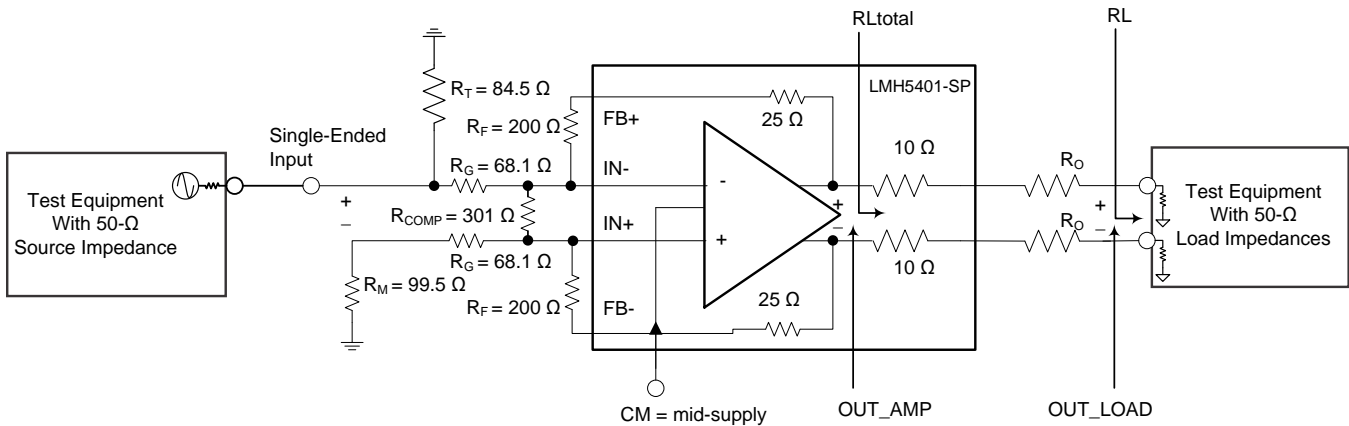
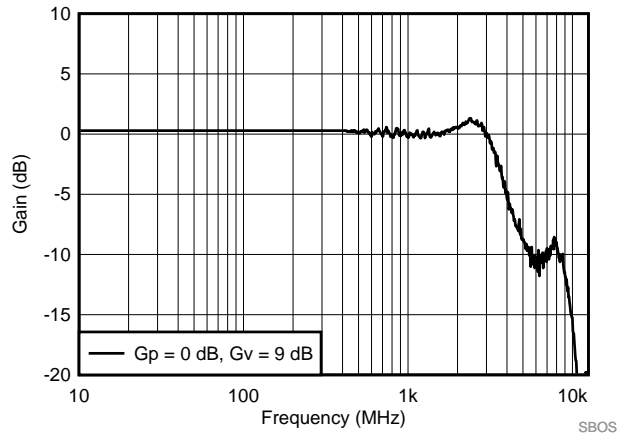

图 61. Noise Gain Compensation for Stability at $G_p = 0$ dB
图 62. SE-DE Small Signal Frequency Response for Low Gain
Two types of gain are associated with amplifiers: noise gain (NG) and signal gain. Noise gain determines the stability of an amplifier. The noise gain is the inverse of the voltage divider from the outputs back to the differential inputs. This gain is calculated by $NG = (R_F / R_{IN}) + 1$. For the LMH5401-SP, $NG > 4$ creates a stable circuit independent on how the signal gain is set. In 图 61, for optimal performance choose R_F within the values noted in this document (see the Parameter Measurement Information section for further information). Using too large of a resistance in the feedback path adds noise and can possibly have a negative affect on bandwidth, depending on the parasitic capacitance of the board; too low of a resistance can load the output, thus affecting distortion performance. When low signal gain stability is needed, the noise gain can be altered with the addition of a resistor, R_{comp} . By manipulating the noise gain with this addition, the amplifier can be stabilized at lower signal gains. In 图 61, R_S and R_{comp} in parallel combination also affects the noise gain of the amplifier. R_G and R_F are the main gain-setting resistors and the addition of R_{comp} adjusts the noise gain for stability. Much of this stability can be simulated using the LMH5401-SP TINA model, depending on the amplifier configuration. The example in 图 61 uses the LMH5401-SP, a signal gain of 2.8 V/V, and a noise gain of 4.75 V/V resulting in the frequency response shown in 图 62.